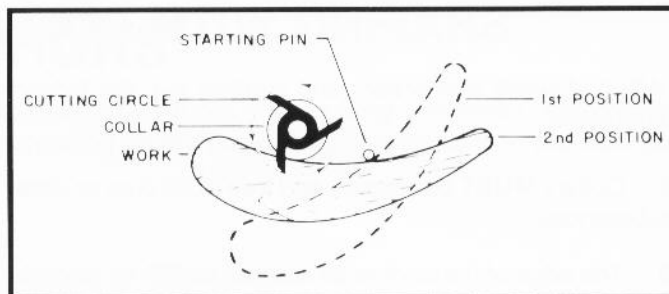

Fig. 37
2. The work should be placed in the first position using the guide pin as a support, as shown in Fig. 37. Then swing the work into the cutter as shown in the second position. The work will now be supported by the collar and starting pin as shown in Fig. 37.